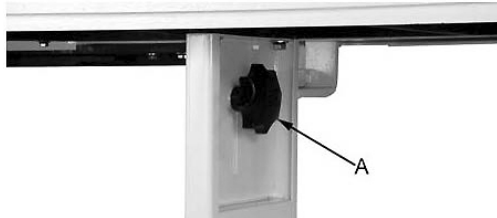

Fig. 9: Table height adjustment
Step 2: Loosen the clamping screw A (Fig. 9).